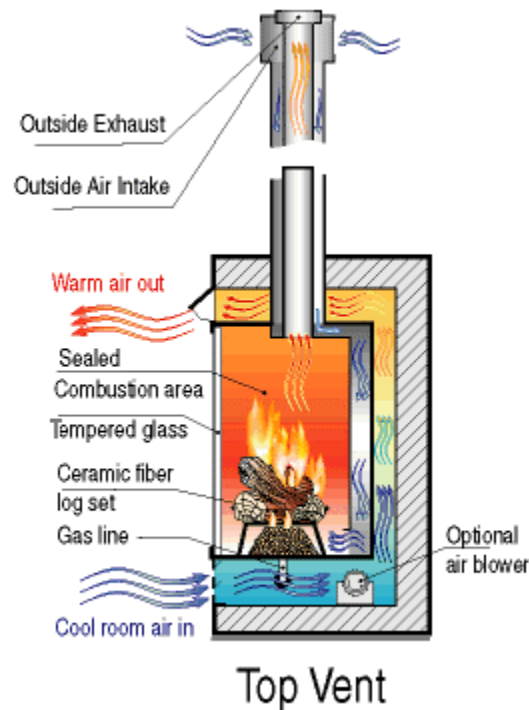

Figure 14 Direct vent coaxial top exit, horizontal or vertical termination. (adapted from Chew/Fireside Group Inc., 2017). Used with permission.
- Direct vent coaxial top exit, horizontal or vertical termination (Figure 14)